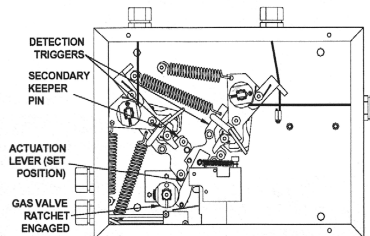

Figure 13.
3. Using a 3/16" hex wrench or ratchet with a 3/16" hex-bit socket, rotate (in a clockwise motion) the Detection Trigger upwards, until the Catch snaps into place, locking the Trigger in the SET position. Insert second Keeper Pin if desired. See Figure 13.